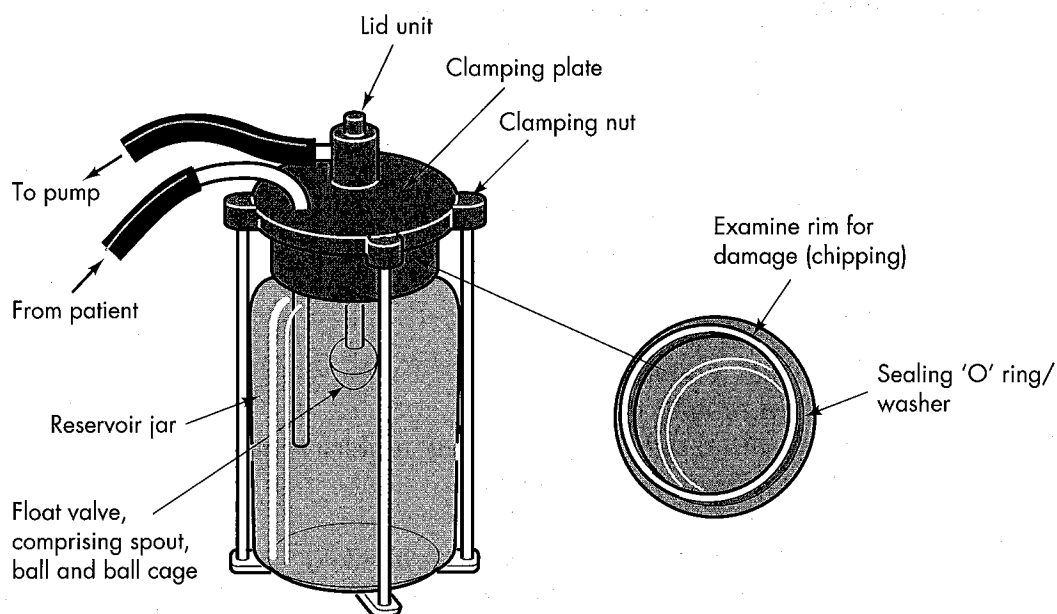

Figure 37: Typical reservoir jar (plastic or glass)
- vi. check that the jar fits tightly (Figure 37)